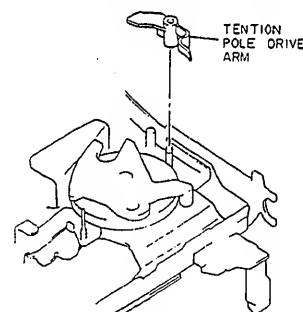

Fig. 2-89
1. Pull out the tension pole drive arm from the chassis. (See Fig. 2-89)